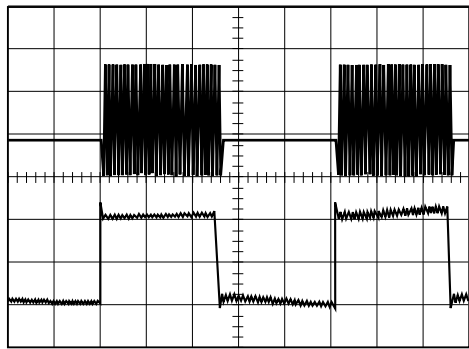

Figure 7. Using a PWM Signal to CTL pin.
With the PWM signal applied to the CTL pin, the KIB3401F is turned on or off by the signal. Typical frequency range of the PWM signal is 15kHz to 30kHz. The switching waveforms of the CTL pin PWM control are shown in Figure 7(A) and 7(B)